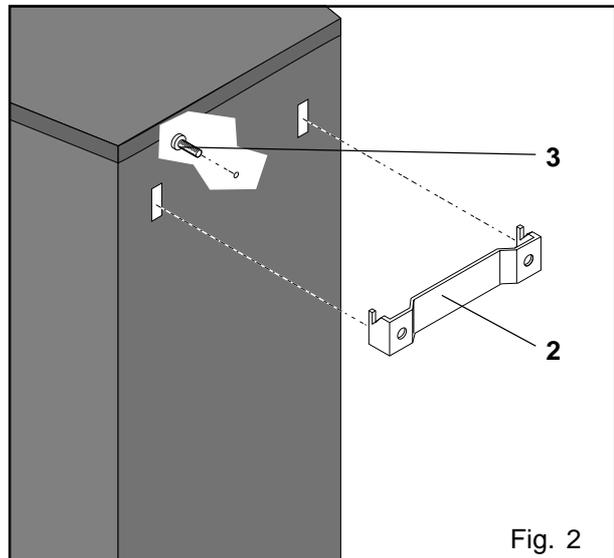

Fig. 2
- Insert the carber sponge into the support of the boiler cover insert. (Fig. 2, 3)
- Use the wall mounting (2) of the kit as a drilling gauge and mount it. (Fig. 2)
- If necessary mount the locking screw (3) from the inside. For this the brewer must be dismantled. (Fig. 2)